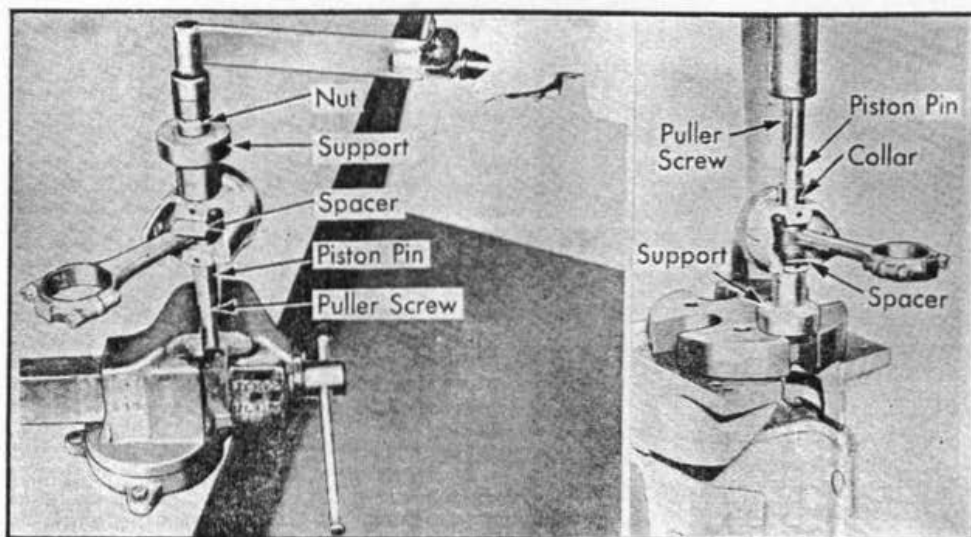

Fig. 18 Installing piston pin in piston and rod, 1950-54
8. Install nut on puller screw and tighten with a torque wrench to start piston pin into connecting rod, Fig. 18. If pin can be started into rod with less than 25 lbs. ft. torque, the clearance between pin and rod is excessive and either piston and pin assembly or connecting rod must be replaced.